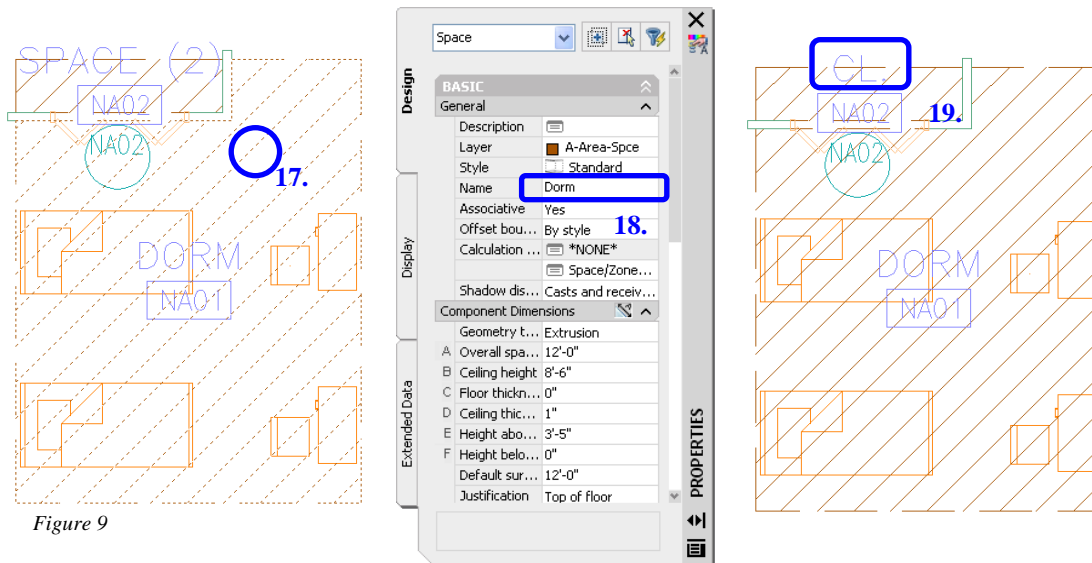

Figure 9
19. Repeat steps 17 and 18 to name the small space **CL**. *Figure 9*